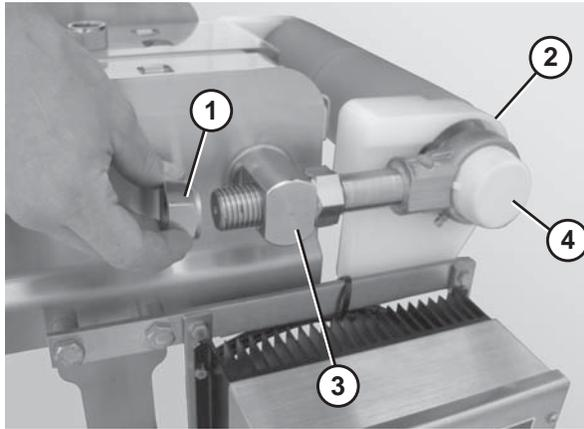

Figure 65
- Remove the back nuts (Figure 65, item 1) on both idler tail shafts.
- Slide the idler tail assembly (Figure 65, item 2) out of the take up blocks (Figure 65, item 3).
- Remove the bearing covers (Figure 65, item 4).